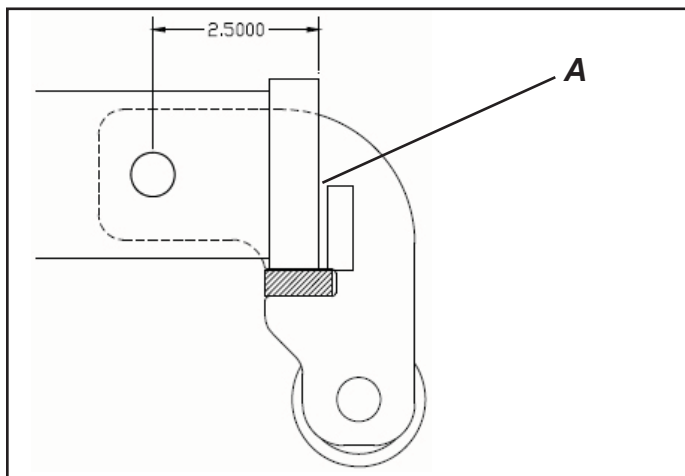

Fig. 1
1. The Roller Hitch Protector is designed to fit most 2" I.D. square tube hitch receivers from major manufacturers. A small amount of space at point 'A' is OK. The Hitch Guard protector will stay in place (Fig. 1).